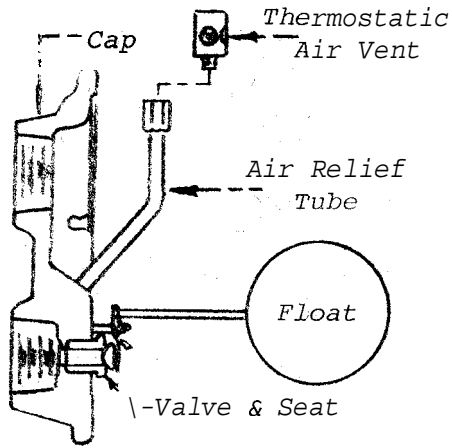

Figure 4. Float & Thermostatic Trap
- 6) Inspect all of the moving-parts. Remove all worn or damaged parts and replace them with new parts. Figures 4,5,6, and 7 show all critical or moving parts. Check that each item is in good condition and operates normally. Inspect the lever and guide pin assembly for indications of wear. See that the float is not dented or corroded. Look for pinhole leaks in the float.